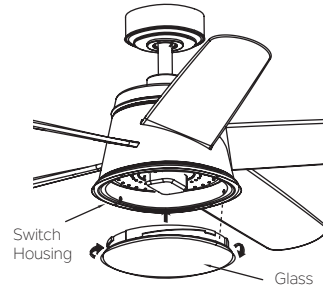

Fig. 22
**Step 2.** Secure the glass to switch housing by twisting in a clockwise direction, twist the glass gradually until it snaps on to the switch housing. Do not over-tighten. (Fig. 22)